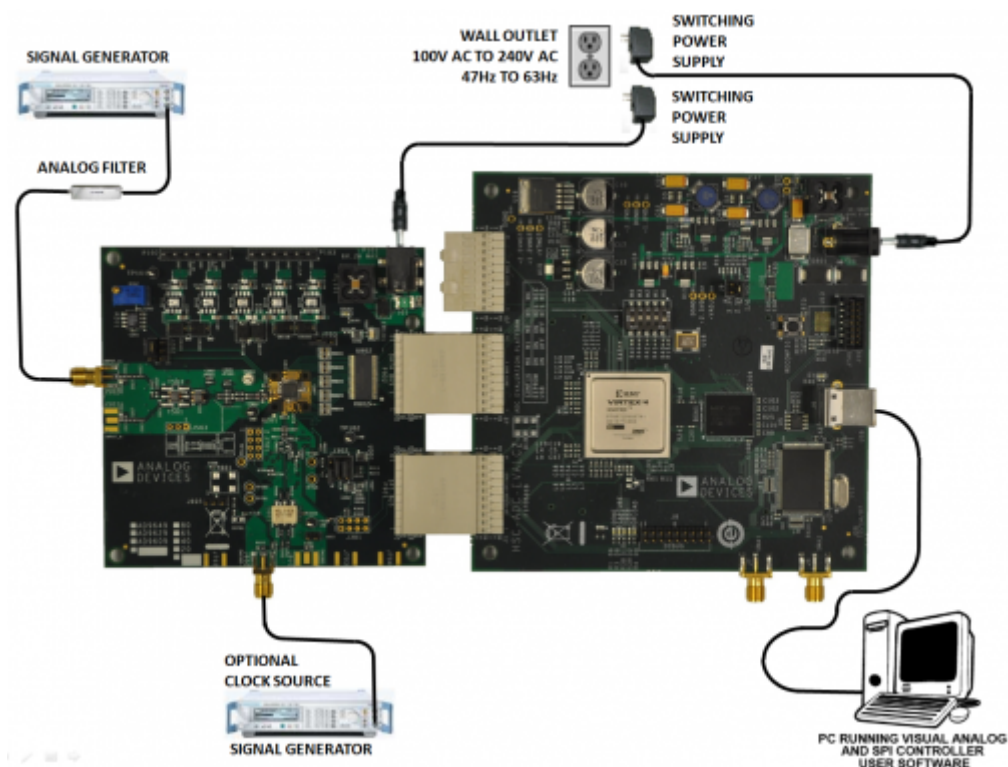

Figure 1. Evaluation Board Connection—AD9266-80EBZ/AD9649-80EBZ/AD9629-80EBZ/AD9609-80EBZ (on Left) and HSC-ADC-EVALCZ (on Right)
1. Connect the evaluation board to the data capture board, as shown in Figure 1. The AD9266, AD9649, AD9629, and AD9609 are all pin compatible and use the same evaluation board.
The evaluation board provides the support circuitry required to operate the AD9266 and AD9649 in their various modes and configurations. Figure 1 shows the typical bench characterization setup used to evaluate ac performance. It is critical that the signal sources used for the analog input and clock have very low phase noise (ideally  $\sim 100$  fs rms jitter) to realize the optimum performance of the